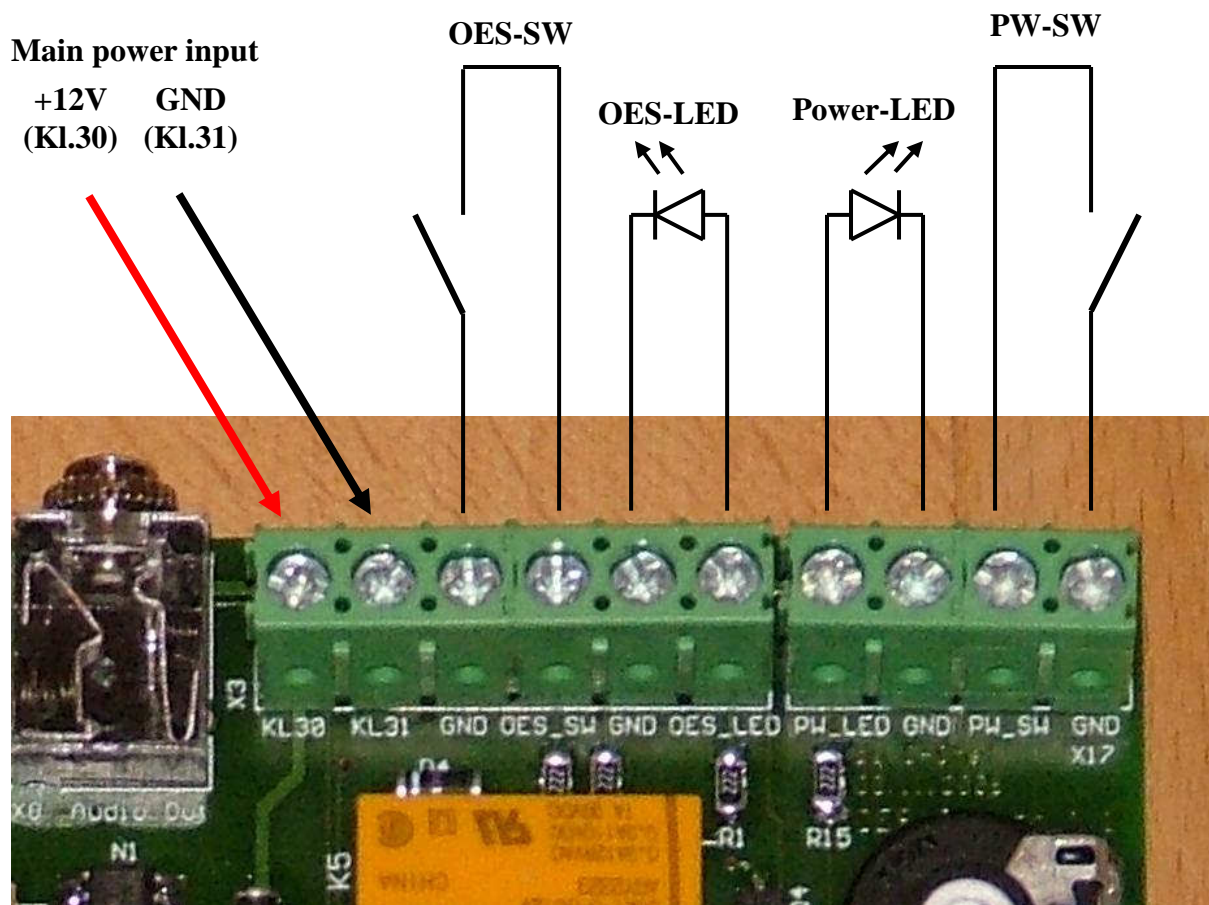

Fig. 5: screw terminals for main power, push-buttons and LEDs
If the OES-Switch V1.2 shall not be controlled by the optional illuminated push-buttons shown in figure 2 and 3, any other normally open-push buttons may be used. For indication of the operating mode in this case, common LEDs may be connected to the screw terminals as shown in figure 5. Additional resistors for the LEDs are not required!
- start with connecting the push-buttons with LEDs, refer to figure 5
- then connect the main power supply according figure 5 (e.g. to the 12V-power jack), do not swap polarity!
The OES-Switch V1.2 is controlled by two push-buttons that have to be connected to the screw terminals as described in chapter 3 (figure 5).